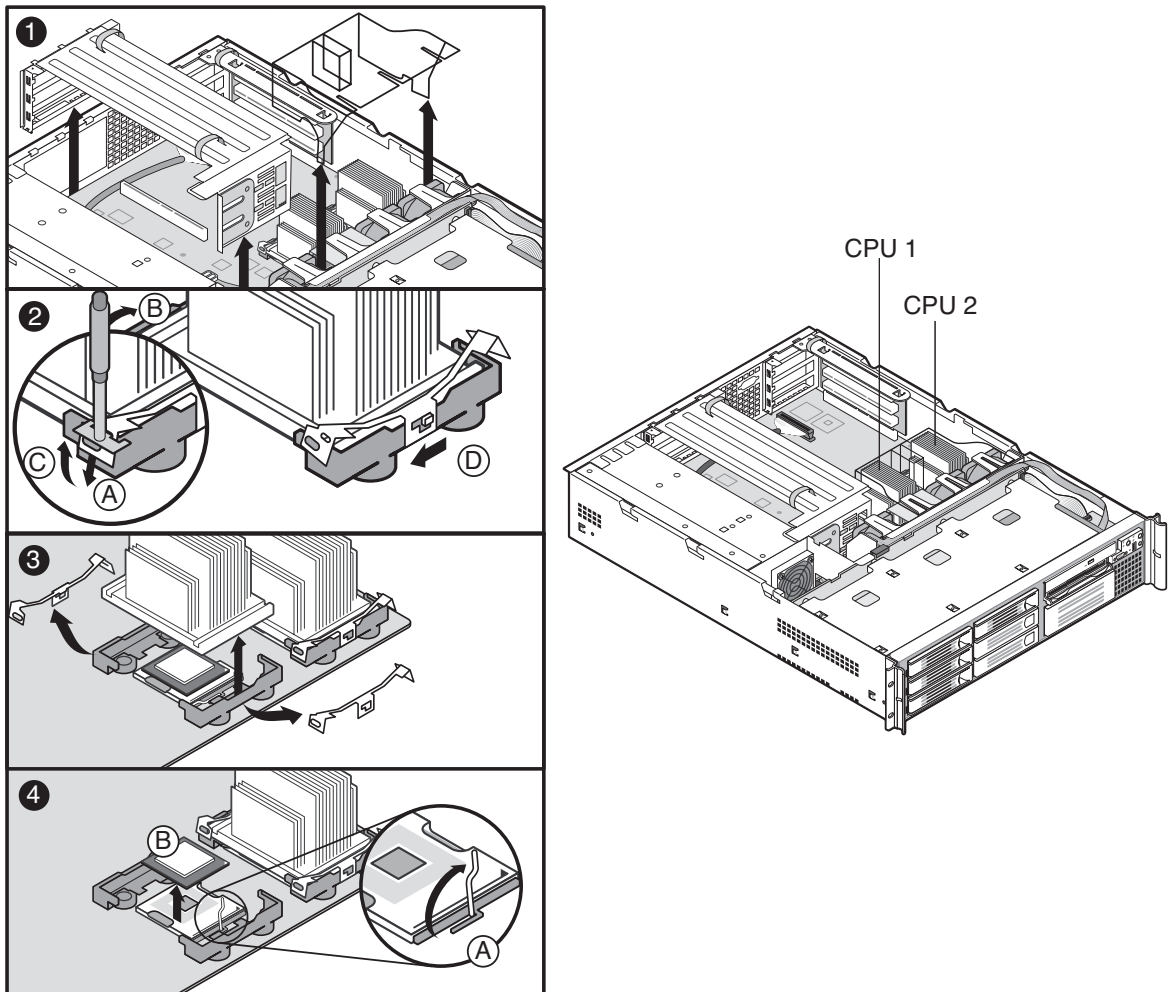

FIGURE 5-15 Sun Fire V65x Server Heatsink and Processor Removal
To remove the heatsink and processor, follow these steps while referring to Figure 5-15:
1. As shown in panel 1 of Figure 5-15, Remove the SCSI cable clipped to the left side of the processor air duct, then remove the processor air duct by sliding it slightly back and then lifting it from the front edge.
2. Determine the location of the processor you are going to remove (see Figure 5-15).
3. As shown in panel 2 of Figure 5-15, insert the heatsink retention clip removal tool into the hole in the end of one of the retention clips and then: